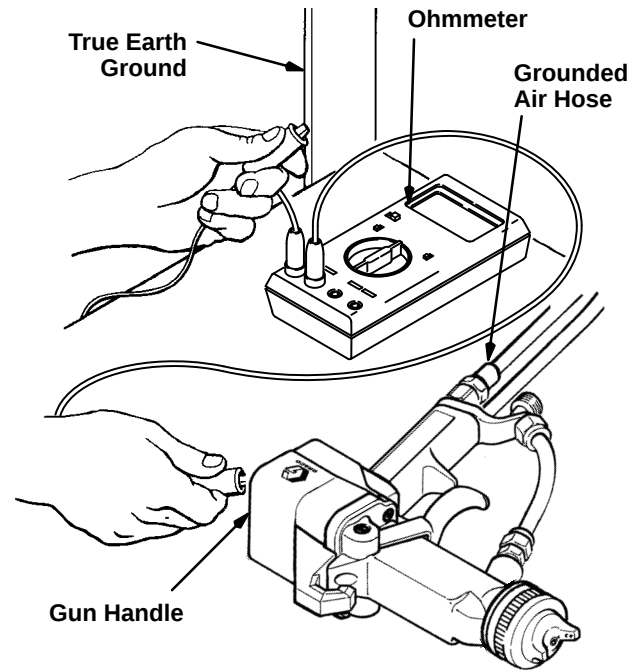

Fig 8
- a. With the electrically conductive *air hose* connected and properly grounded, use an ohmmeter to measure the resistance between the *gun handle* and a *true earth ground*. See Fig 8.